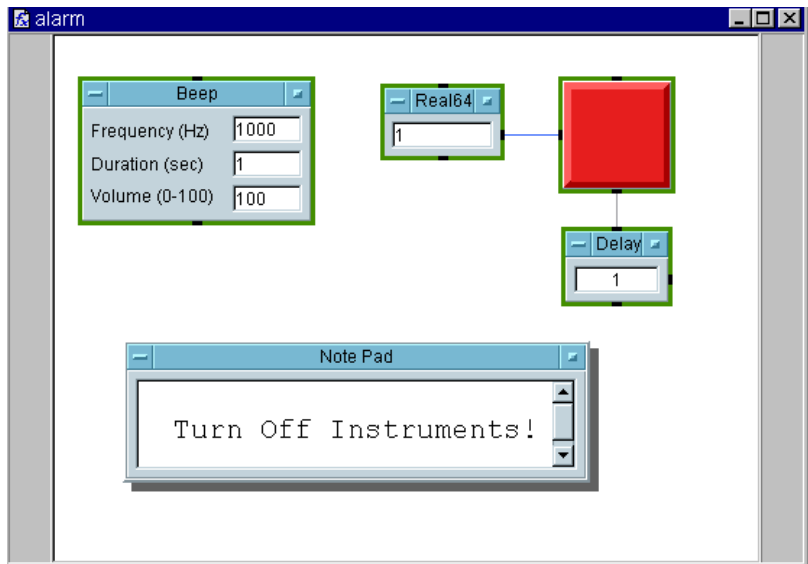

Figure 271 The UserFunction alarm (Detail View)
- 8 Go to the Main window. Choose **Device** ⇒ **Call**, choose Select Function from the Call object menu, and select alarm. Run the program to test it. The detail view of the UserFunction alarm should look like Figure 271.